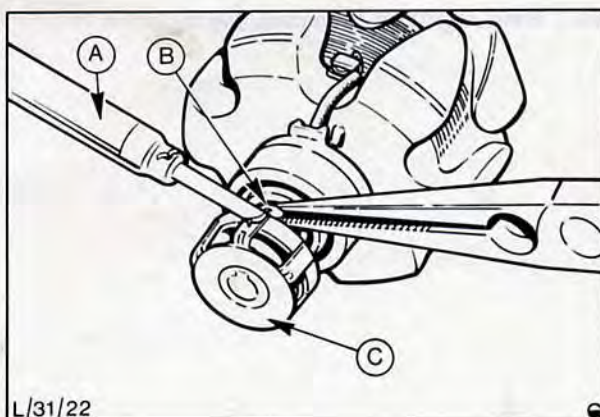

Fig. 55. Resoldering slip ring connections
25. Refit slip ring to rotor shaft and resolder slip ring connections, Fig. 55, using only a 60/40 electricians solder.